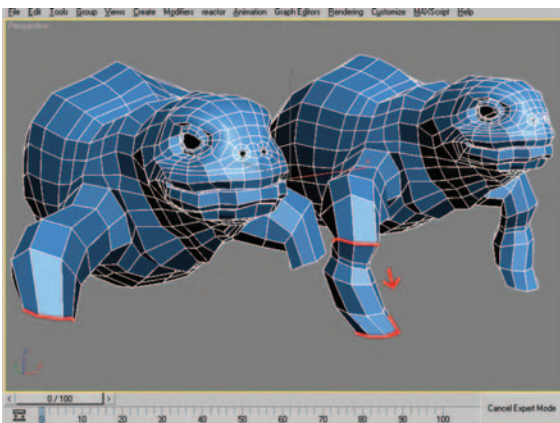

Figure 9.49 Border selection before and after shift-drag ($\times 5$). Loops were scaled and rotated during the process.
10. Using the same border selection (Figure 9.49, left), shift-drag the border five times, rotating, positioning, and scaling as you go (Figure 9.49, right).